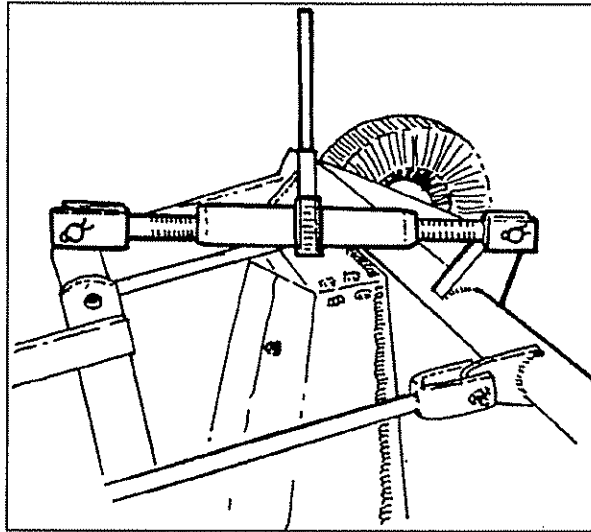

FIGURE 21
1. The ratchet lift screw attaches on one end to the long lug on the rear axle. The other end of the lift screw attaches to lug behind the center gearbox. Use hardware provided with lift screw. See **Figure 21**. Final adjustment of lift screw is made later in the "Operation" section.